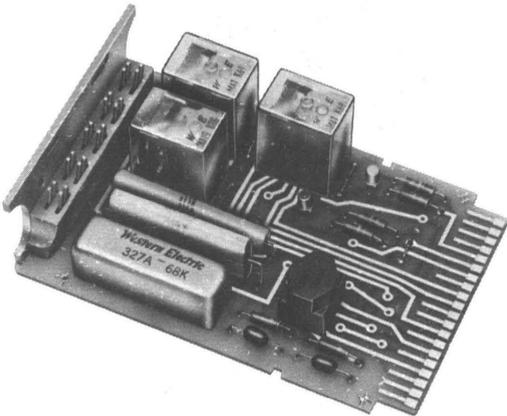

Fig. 9—109A Interconnecting Unit
**2.09 109A Interconnecting Unit**—A 4-inch circuit pack for use in the interconnection of a 1A2 KTS and a customer-provided audio source for use when the CO line is in the hold condition. This unit is intended to mount in a 69H apparatus mounting or 606A panel. (See Fig. 9.)